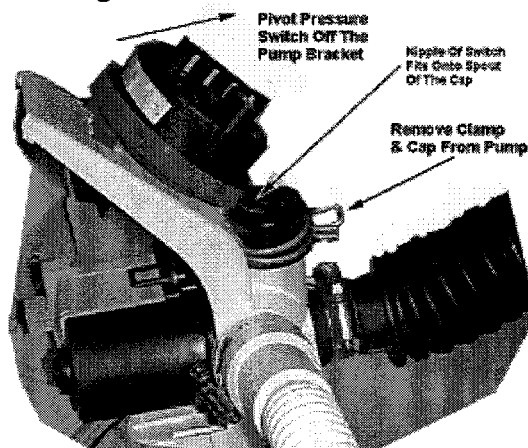

Figure 7
5. Grasp the pressure switch and lift the nipple of the pressure switch from the pump cap. **Figure 7**